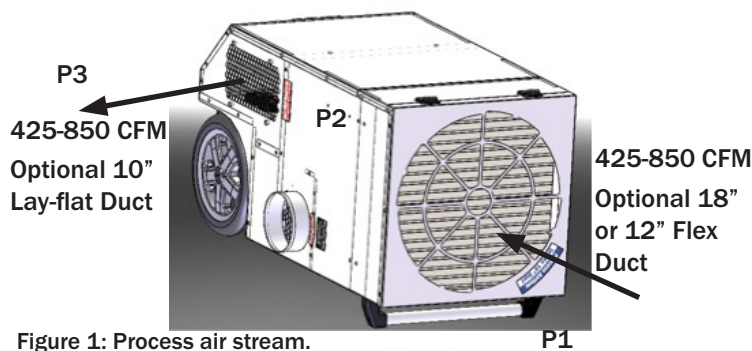
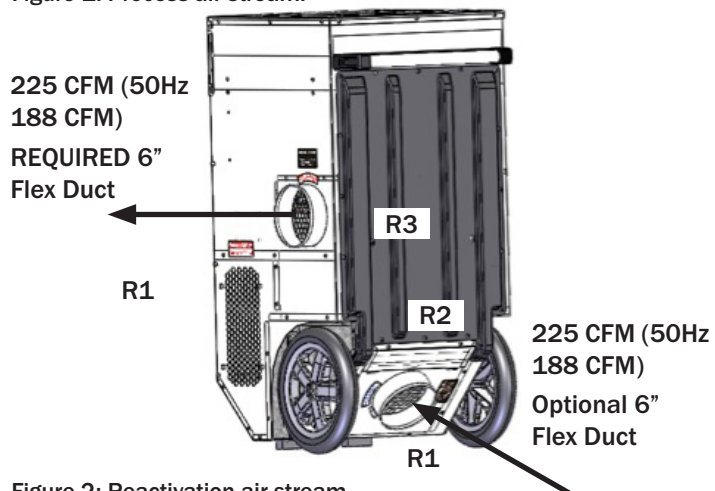

Figure 1: Process air stream.
Figure 2: Reactivation air stream.
Your Phoenix D850 uses two separate air streams – Process (Fig. 1) and Reactivation (Fig. 2). Moisture is transferred from the incoming process air to the outgoing reactivation air. It is exhausted from the structure as water vapor, so there is no drain hose or condensate pump.
**Process Air Stream (Fig. 1):**
The Phoenix D850 can be transported and stored either upright or horizontally as shown in Figures 1 and 2 (on page 3). There is a storage compartment under the process air filter, which is large enough to store the power cords and additional small items that you may require on your job site.
When inflated, this ducting forms a 10"-diameter tube. It attaches to the D850 by means of a 12"x 6" wire rectangle. To attach layflat ducting to the process exhaust opening (Fig. 1, P3), feed the duct end through the collar and roll the end outward so that it overlaps the outside of the collar. Snap the collar inside the screw posts, then slide the collar down against the center post. See Figure 8